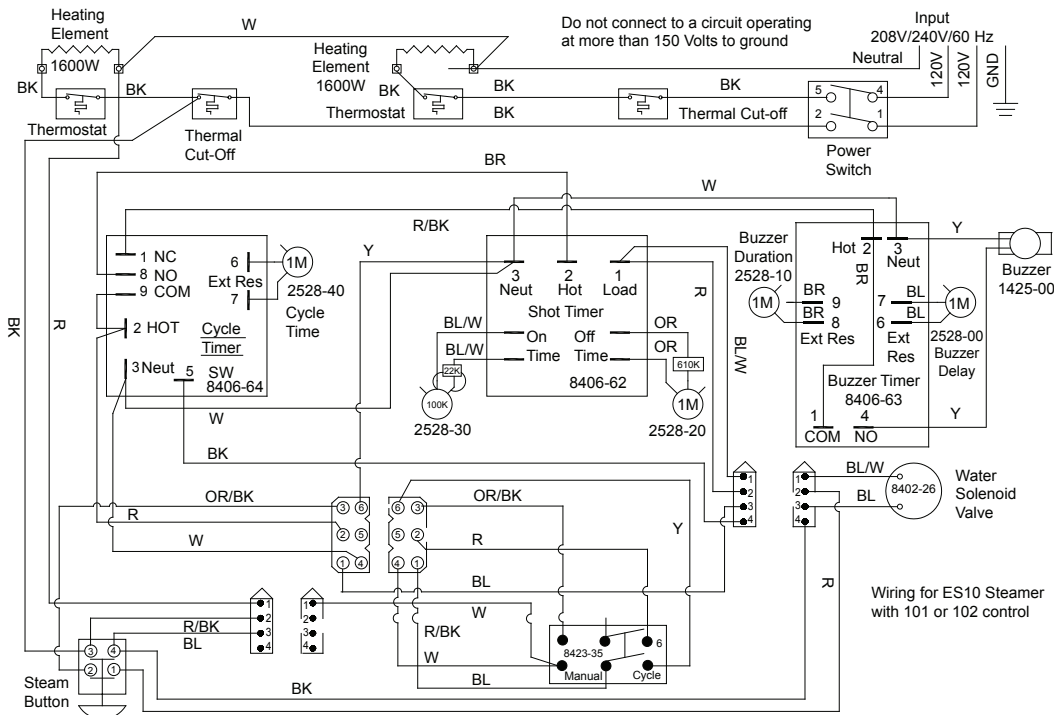

Figure 1: Wiring Diagram
Standard ES10 Steamers are designed for use with 208 VAC to 240 VAC, 4 (3 pole with ground) wire, single phase, 60 Hz, electrical service. (See Figure 1).
**Electrical.** Female twist-lock receptacle, supplied loose with the steamer, should be installed by a qualified electrician. Refer to wiring diagrams. Figure 1.
**NOTE:** Female receptacle must be wired to assure that voltage to the individual heating elements does not exceed 150 volts. (Circuits R-W and BK-W on Fig 1 and 2.) G terminal is wired to Ground W terminal is wired to neutral. Protect circuit with a 15 amp double pole circuit breaker.